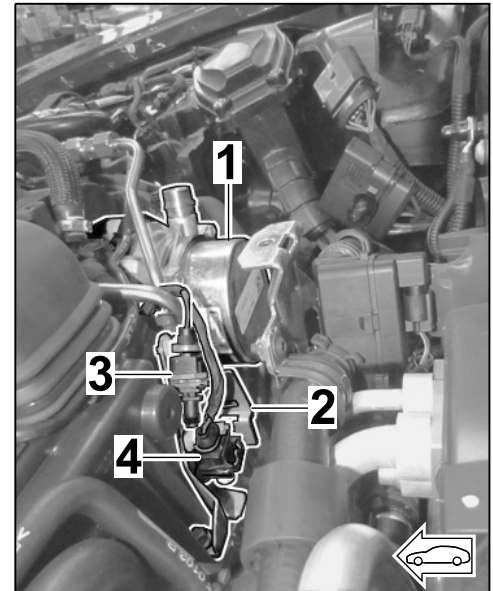

Figure 9
2.2 Unclip both connectors (2-pin) with cable holders from the bracket (metal) (⇒ *Figure 9*, shows left-hand drive vehicle).